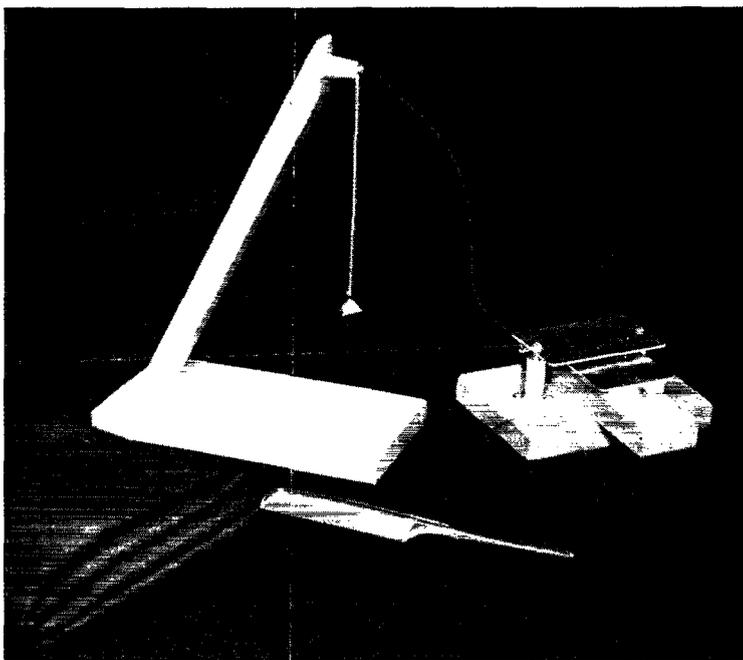

Fig. 2
**Apparatus:** The equipment and set-up for this experiment are shown in Fig. 2. The stand used in Exp. 1 supports a 5-or 6-inch length of stiff copper wire (No. 12 or 14) to the lower end of which has been soldered a small piece of very fine bare wire (No. 38 if available) rounded in the form of a hook. Two triangular pieces of thin aluminum foil about  $\frac{3}{8}$  inch on a side hang on the hook. The holes through which the hook passes can be punched through the foil with a needle, and should be as close as possible to one apex of the triangle. The two "leaves" should be free to move on the hook without interfering with each other. This forms a simple electro-scope, or instrument for measuring the intensity of a charge.
**Apparatus:** The same equipment is needed as in Exp. 2, with the addition of a  $2 \times 3$  inch metal plate mounted flat on one end of a piece of wood 2 inches wide and 5 or 6 inches long. Add a wooden shim, if necessary, so that when the second plate is slid under the first, as shown in Fig. 2, the two plates will be separated by about  $\frac{1}{8}$  inch. Attach a length of wire to the plate. Provide a piece of clean glass about  $2 \times 3$  inches in size. Ordinary window glass is satisfactory.